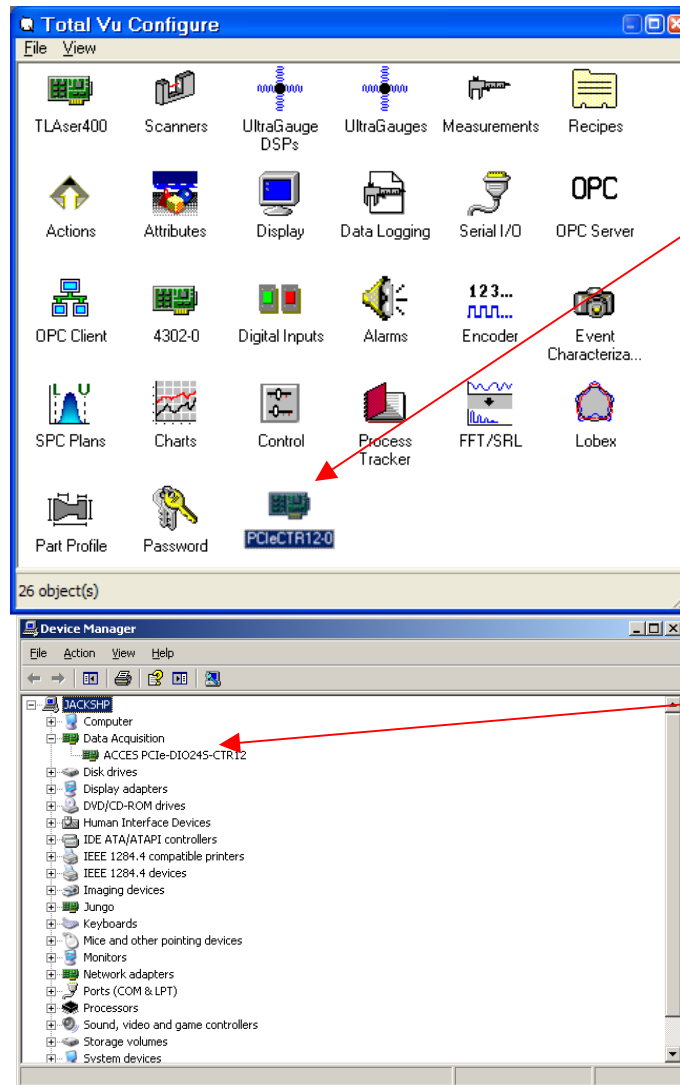

Figure 11. Total Vu Full Configuration window (top) and Windows Device Manager.
Installation of PCIe card is Plug-N-Play, no further action should be required. If unsure, check *Device Manager* entry (See Figure 11).
- 1.2 Check that the icon for PCIeCTR12-0 is present (See Figure 11).